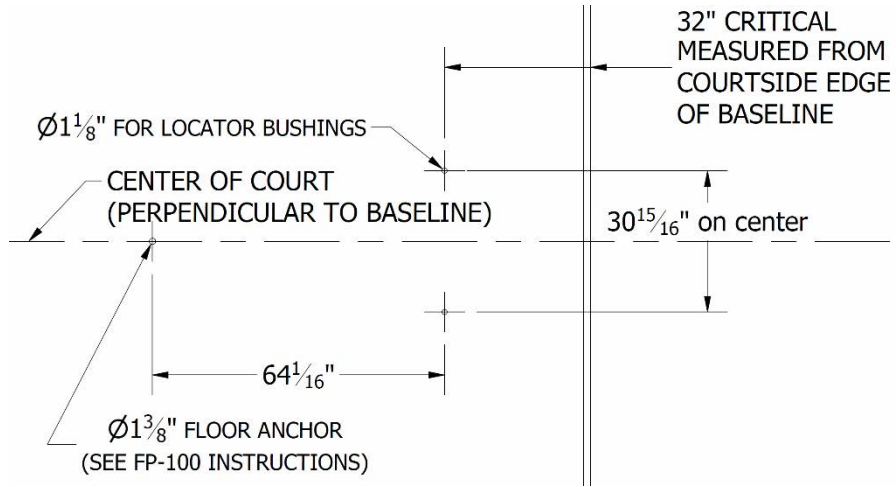

Figure 12-1: PBEL66 Locating and anchor holes locations.
- a. PBEL66 (66" overhang): refer to Figure 12-1